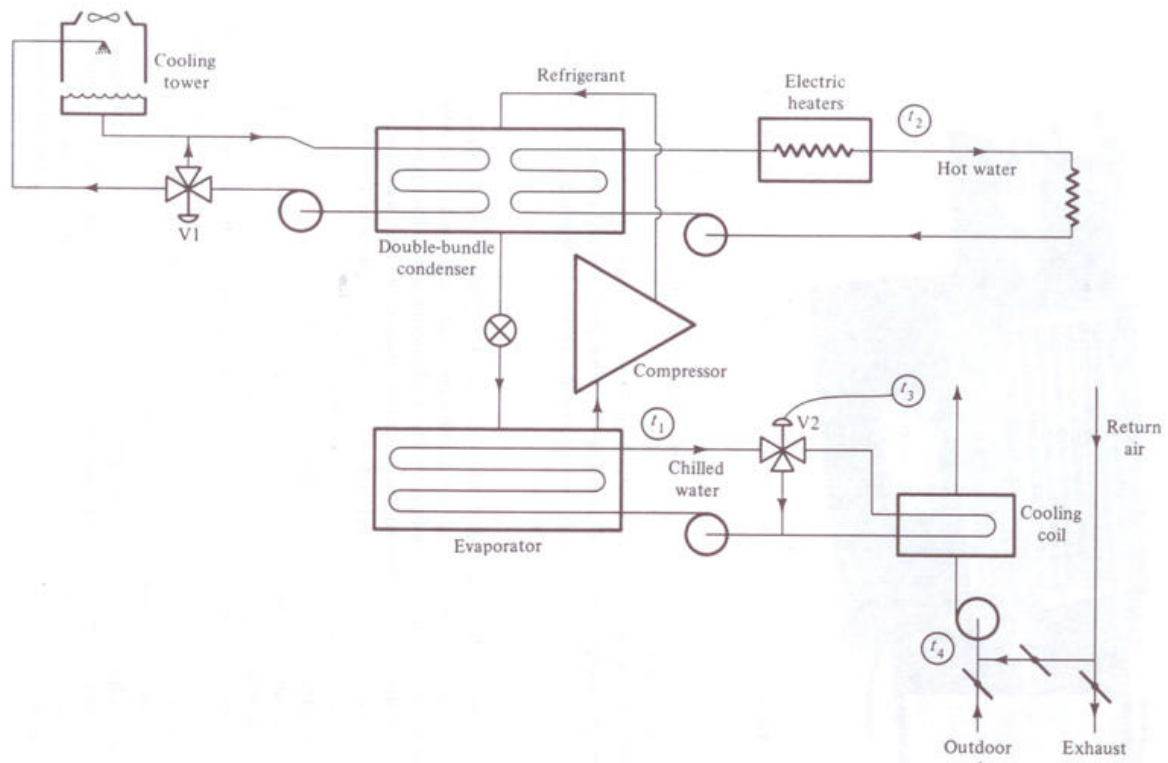
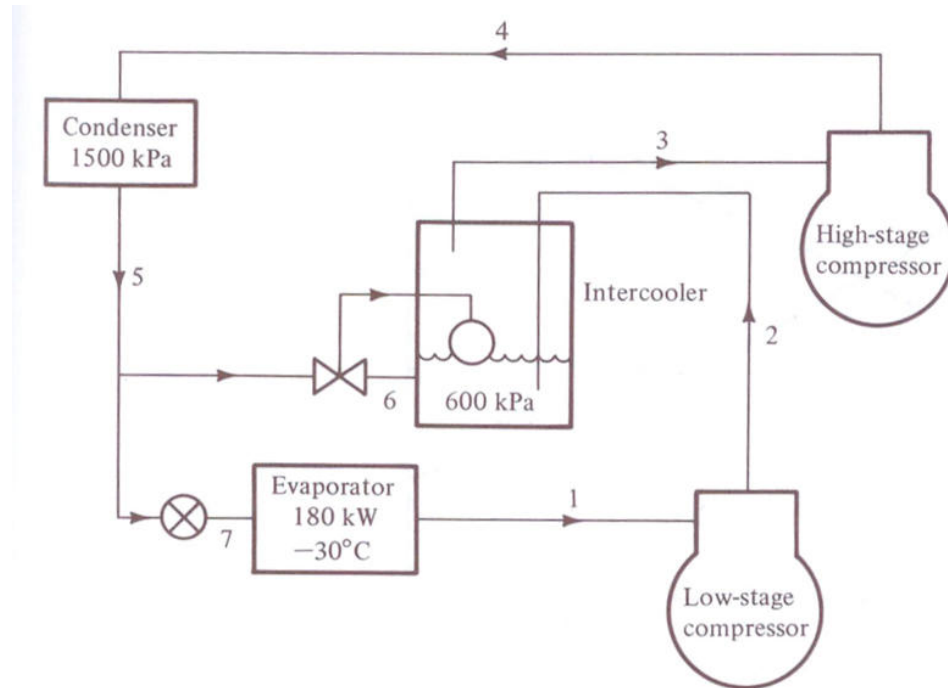

Fig.3 Heat pump with double-bundle condenser
Fig. 4 Intercooling system in Prob.6
- (4) (a) A heat pump manufacturer claims that their product can produce hot water while supplying “free chilled water” for cooling. Discuss the advantages and disadvantages of this machine.
- (b) A heat pump using the double-bundle condenser shown in Fig. 3 is to satisfy a heating load of 335kW when the outdoor temperature is -5°C, the return air temperature is 21°C, and the temperature of the cool supply air is 13°C. The minimum percentage of outdoor air specified for ventilation is 15 percent, and the flow rate of cool supply air is 40kg/s. If the COP of the heat pump at this condition is 3.2, how much power must be provided by the supplementary heaters?
- (5) (a) What is the physical meaning of fin effectiveness?
- (6) In a refrigerant 22 refrigeration system the capacity is 180kW at a temperature of -30°C. The vapor from the evaporator is pumped by one compressor to the condensing pressure of 1500kPa. Later the system is revised to a two-stage compression operating on the cycle shown in Fig. 4 with intercooling but no removal of flash gas at 600kPa.